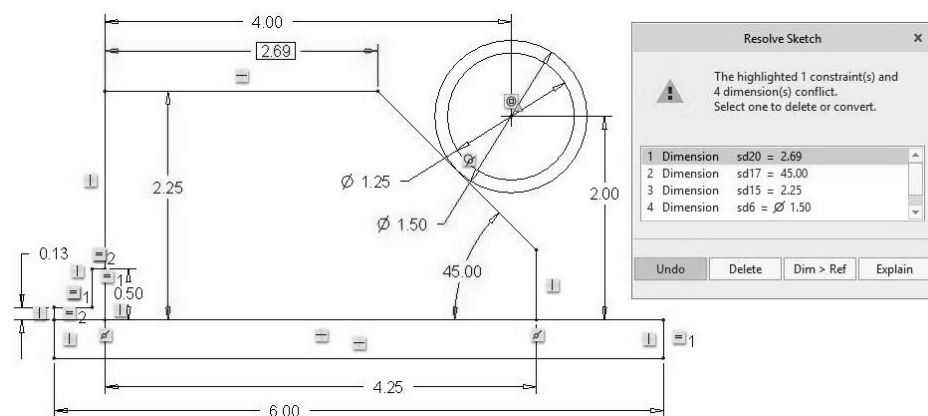

Figure 3-56 Resolve Sketch
- Step 16:** *Select the horizontal line at the top of the jig with the LMB. Move upward a bit, then press the MMB to locate the dimension. Note that a “Resolve Sketch” window appears. See Figure 3-56. This appears because the sketch as defined is completely defined and we are trying to add another dimension. Several constraints and dimensions need to be modified in order to add this dimension. A reference dimension is a dimension shown on a sketch that is not necessary to define the sketch. When the window appears, be sure the new dimension is highlighted, then *pick the **Dim>Ref** button. Pick **OK**.**